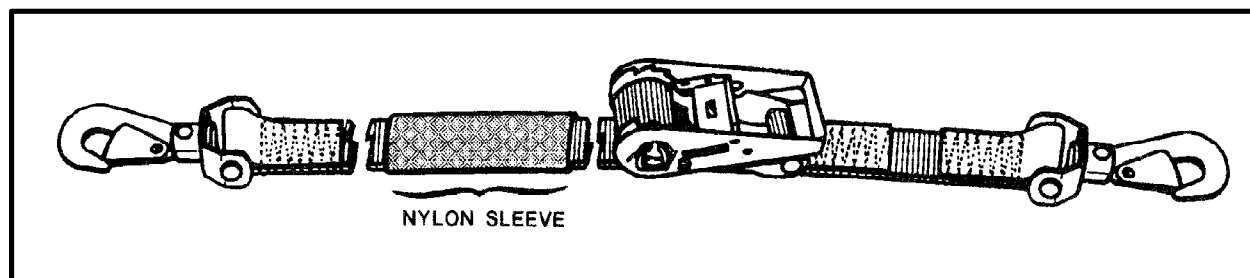

Figure 8-22. Special Webbing Strap (P/N 9392419)
**j. Special Webbing Strap.** The 5,000-pound capacity special webbing strap (Figure 8-22) is similar to the CGU-1/B cargo tie-down strap. The main differences